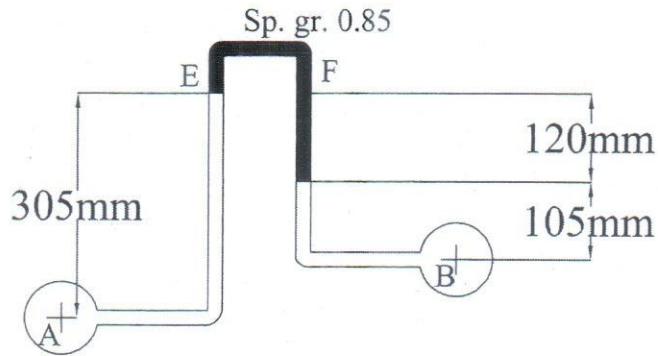

Fig.: 10
- (c) Show the relationship between absolute and relative velocities with a diagram. (06)
8. (a) Derive Newton's equation of viscosity. Explain, why the viscosity of all liquids decrease and that of all gases increase with temperature. (05)
- (b) An inverted differential manometer is connected to two pipes in which water is flowing as shown in Fig. 10. If the pressure in the pipe A is 2.2 m of water, find the pressure in the pipe B. (08)